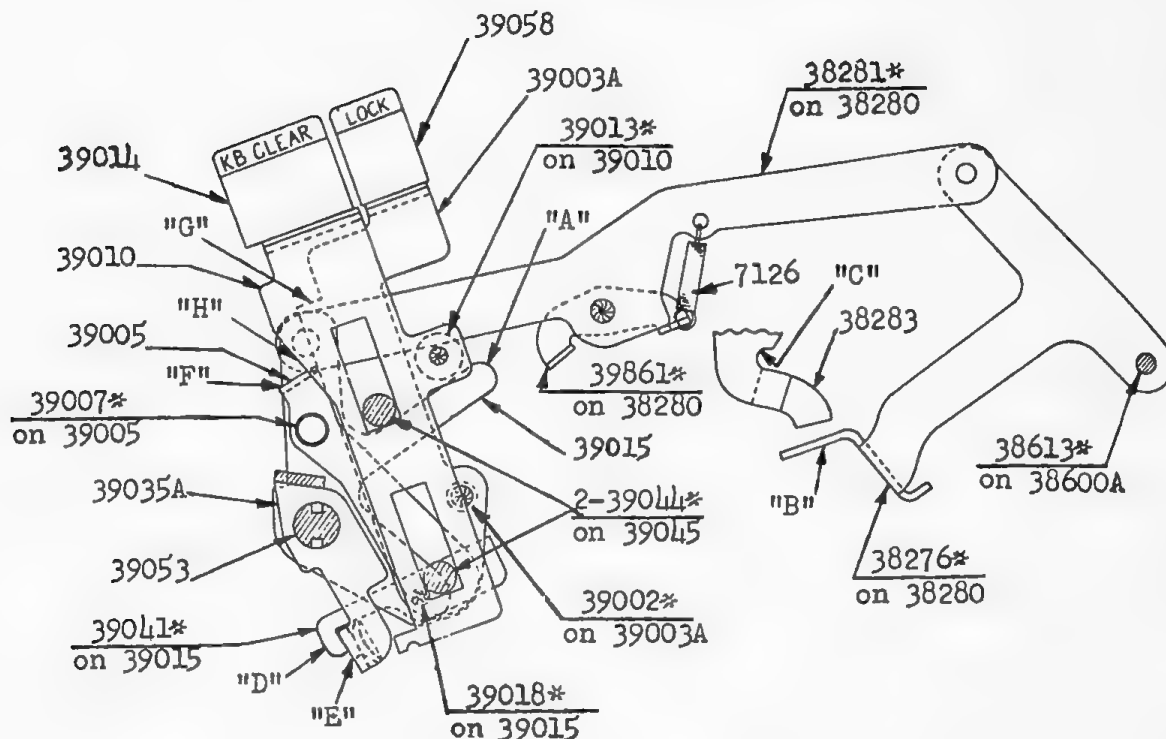

FIG. 68
1. (Fig. 68). The Selection Keyboard Clearance in this model is similar to the one that is used
1. (Fig. 68). If the Keyboard Clear Key-39010 is held depressed during Keyboard entry the Fingers "B" hold the Levers 38283 in such a position that an ear on the Lock Bar underlies surface "C" on 38283, preventing clearance of the Keyboard if the Keyboard Clear Key is depressed later and preventing all automatic Keyboard clearances of any number locked in this manner.
XIII. KEYBOARD LOCK KEY:(Fig. 68).